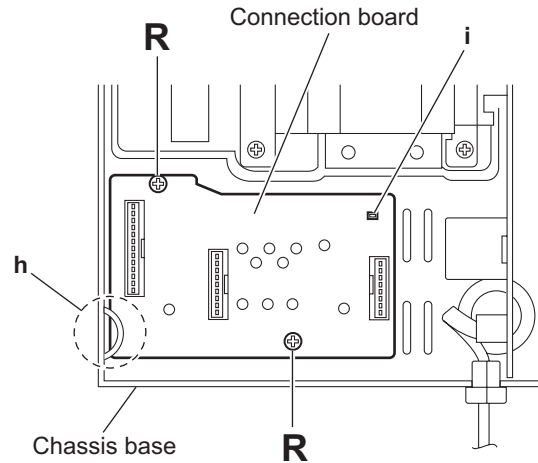

Fig.18
3.1.8 Removing the connection board (See Fig.18.)